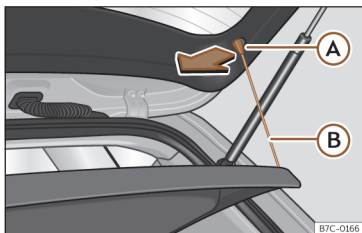

Fig. 111 In the luggage compartment: removing and fitting the shelf.
- Detach the cord loops >>> **Fig. 111 B** from their hooks **A**.
- Hook the loops >>> **Fig. 111 B** to the rear lid.